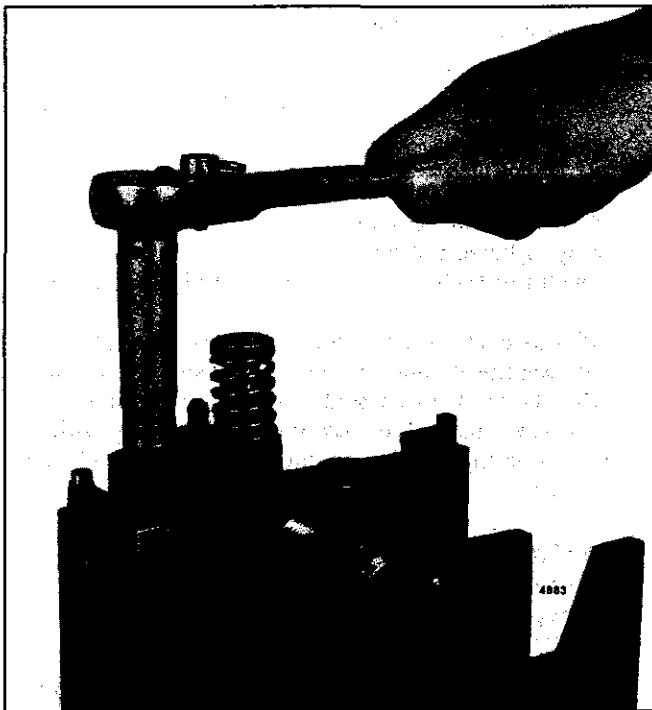

Fig. 28 - Installing Filter Cap
3. Place a new gasket on each filter cap. Lubricate the threads and install the filter caps (Fig. 28). Using a 9/16" deep socket and a torque wrench tighten the filter caps as follows: